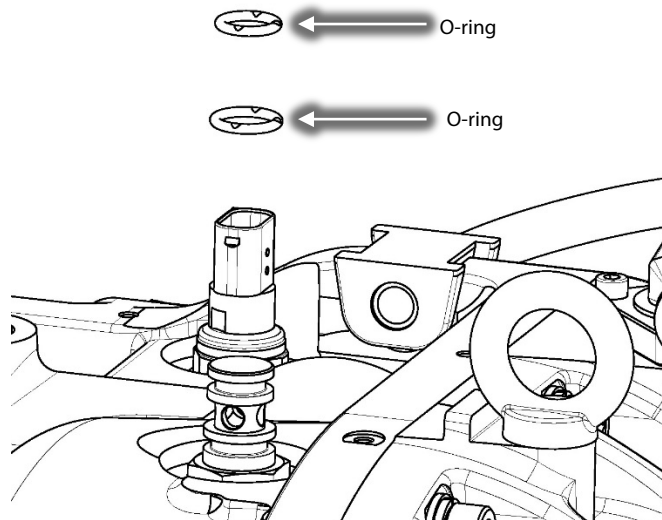

Figure 25 –SCR Manifold Return Brass Fitting O-ring Install
8. Install two (2) new O-rings on the SCR Manifold Return Brass Fitting (smaller one on top). Apply O-lube to each O-ring before installation. Refer to Figure 25 (SCR Manifold Return Brass Fitting O-ring Install).